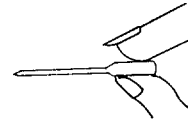

Figure 2-49. Checking Needle Straightness.
b. *Installing the Needle (Refer to Figures 2-49 and 2-50).*
- (1) Select a good needle of correct size, class, and variety for the work to be done.
- (2) Refer to Figure 2-49. Be sure needle is straight and not bent by rolling the needle between your finger tips and looking for bends.